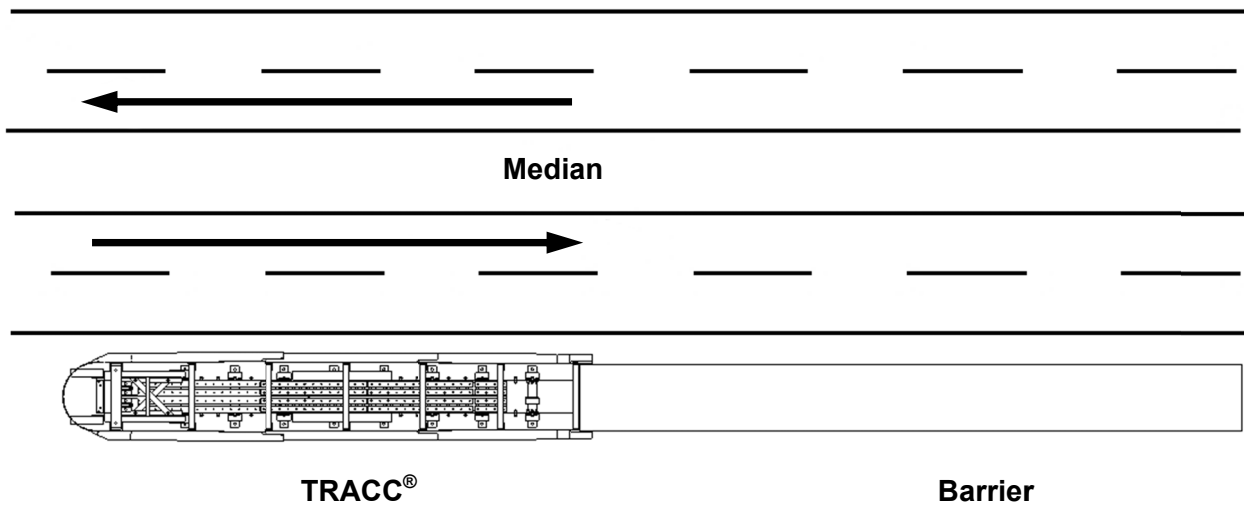

Figure 5 - Unidirectional Traffic Flow – One Side – Requires No Transition
Assembly of a TRACC® system and its backup connections or transitions depends on the traffic pattern and the road feature at the particular location. Unidirectional traffic (one side or both) requires no transition (Figures 5 and 6), only a connection to a backup structure. The Backup Frame can be attached to any solid structure including a square cast-in-place concrete pillar, a vertical concrete wall, or the end of a New Jersey-style barrier with additional brackets (p. 8). For “free-standing” assemblies, Trinity Highway can provide two (2) standard guardrail posts to be driven or two (2) foot-plate posts to be anchored to the concrete or asphalt pad and attached to the Backup Frame. Trinity Highway can provide an adaptor to allow direct attachment of the Backup Frame to a variety of concrete barrier or guardrail profiles. Call Customer Service at 1-888-323-6374 or your local Trinity Highway representative with questions regarding this and other types of assembly.